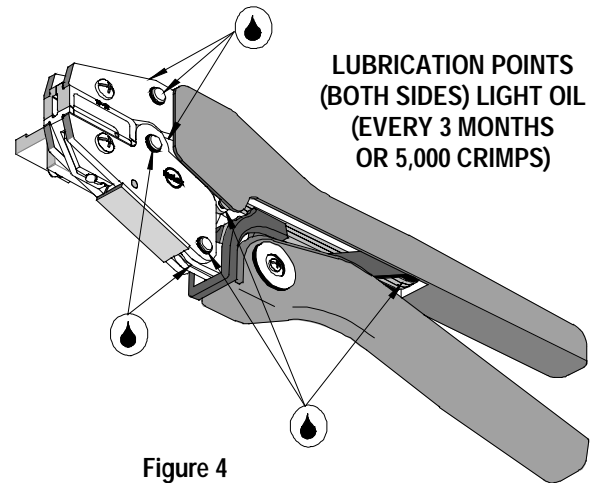

Figure 4
3. Make certain all pins; pivot points and bearing surfaces are protected with a thin coat of high quality machine oil. Do not oil excessively. This hand tool was engineered for durability, but like any fine piece of equipment it needs cleaning and lubrication for a maximum service life of trouble-free crimping. A light oil, such as 30 weight automotive oil used at the oil points shown in Figure 4, every 5,000 crimps or 3 months will significantly enhance the tool life and ensure a stable calibration.